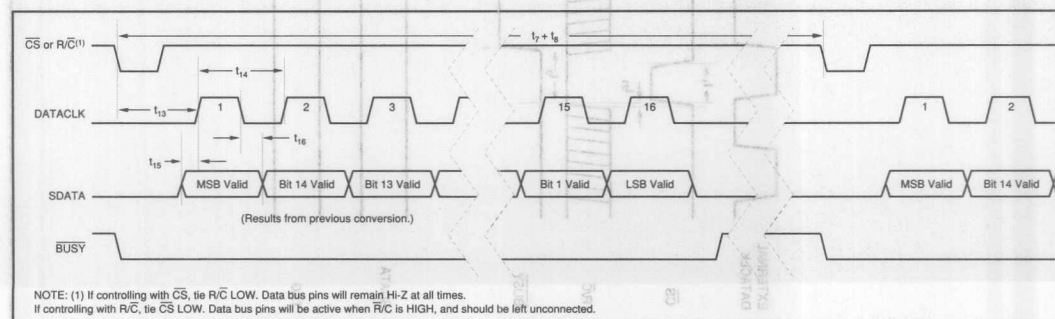

FIGURE 4. Serial Data Timing Using Internal Data Clock (TAG tied LOW).
NOTE: (1) See Figures 4, 5, and 6 for constraints on data valid from conversion "n-1".
To use the internal data clock, tie $\text{EXT}/\overline{\text{INT}}$ (pin 8) LOW. The combination of R/\overline{C} (pin 22) and \overline{CS} (pin 23) LOW will initiate conversion 'n' and activate the internal data clock (typically 900kHz clock rate). The ADS7807 will output 16 bits of valid data, MSB first, from conversion 'n-1' on SDATA (pin 19), synchronized to 16 clock pulses output on DATACLK (pin 18). The data will be valid on both the rising and falling edges of the internal data clock. The rising edge of \overline{BUSY} (pin 24) can be used to latch the data. After the 16th clock pulse, DATACLK will remain LOW until the next conversion is initiated, while SDATA will go to whatever logic level was input on TAG (pin 20) during the first clock pulse. Refer to Table VI and Figure 4.